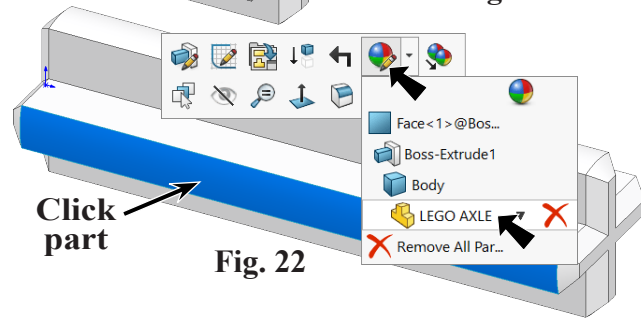

Fig. 22
Step 1. Click part, click **Appearance Callout**  on the context toolbar and click **LEGO AXLE** , Fig. 22.